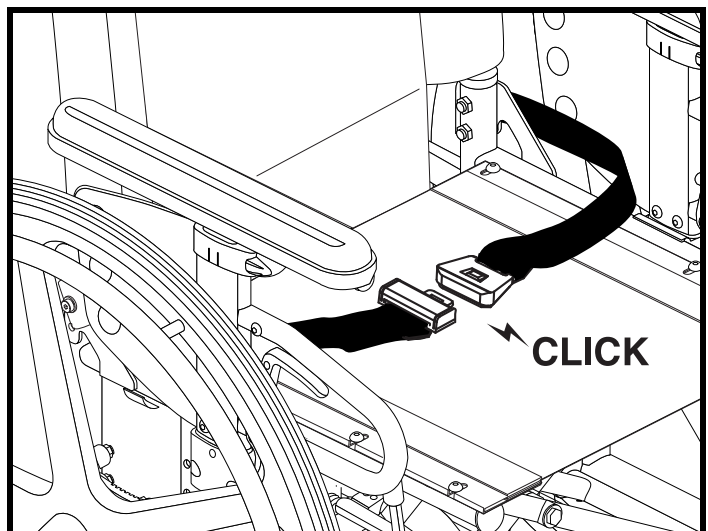

Figure 44. Positioning Belt Adjustment
1. Once seated, insert the metal tab on one side of the belt into the plastic housing on the opposite side until you hear a click. See figure 44.